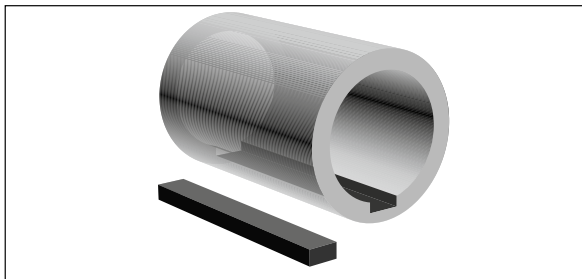

Figure 21. Coat with release agent.
2. **APPLY RELEASING AGENT:** Apply a thin layer of LOCTITE® Silicone Lubricant release agent to the key and to any area where you do not want the product to stick. (See *Figure 21*)